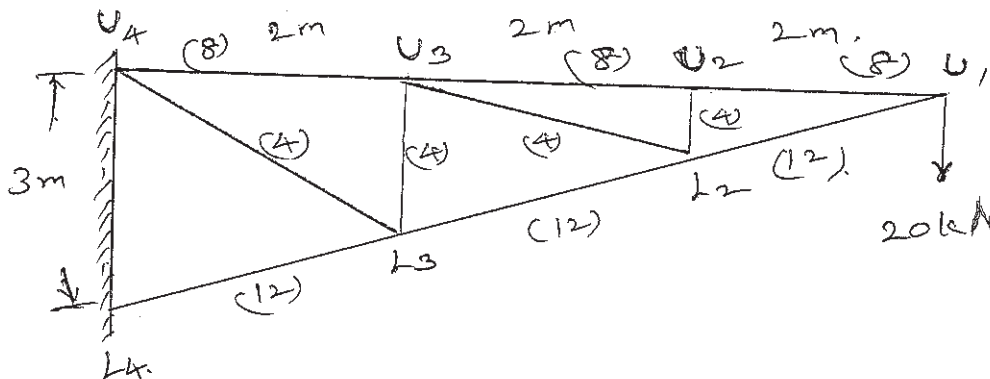

Fig. Q. 16. a.
16. a) Find the vertical deflection of joint U_1 of the truss shown in Fig. Q.16.a. due to applied load . The figure in parenthesis has shown the area of cross section of the members. Let $E = 200 \text{ GN/m}^2$.